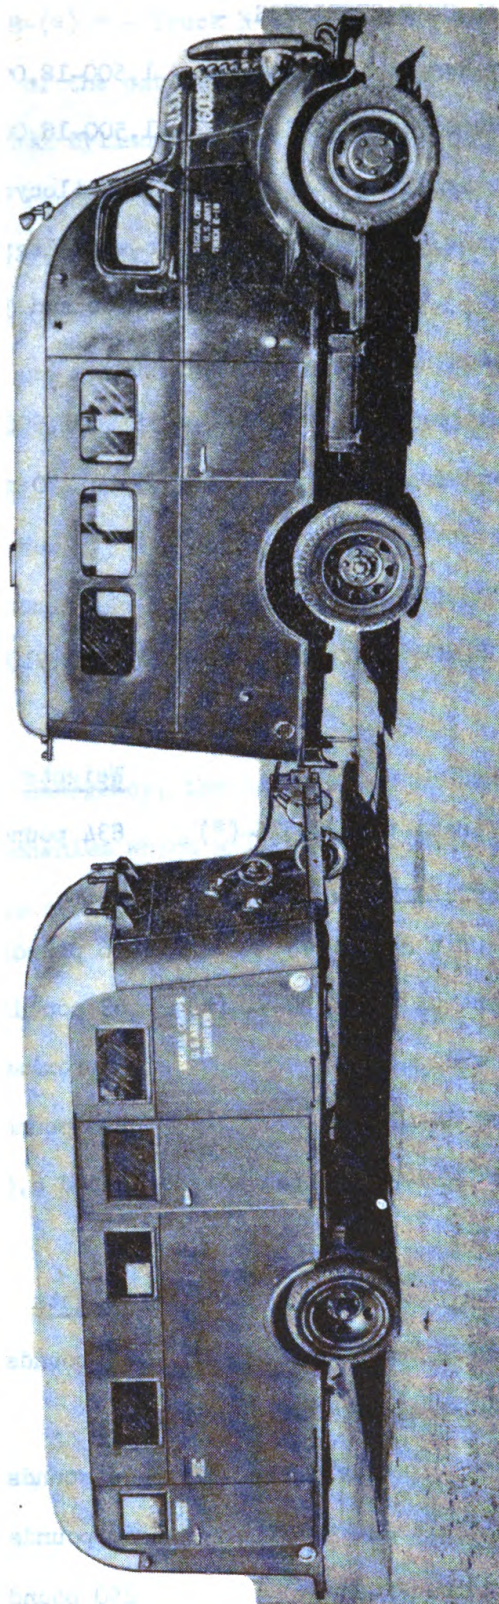

Figure 1. - Radio Set SCR-197-(\*), with the Trailer K-19-(\*) in position in rear of Truck K-18-(\*) .
10. PHYSICAL CHARACTERISTICS. - Radio Set SCR-197-(\*) is a high-power portable radio station. The transmitting equipment is installed in Truck K-18-(\*) and the receiving equipment is installed in trailer K-19-(\*). Commercial sources of power are used when available. Gasoline-engine driven power units for both the transmitting and receiving equipment are furnished and used when commercial power is not available. The transmitter may be remotely controlled using voice, tone, or c-w operation from remote positions up to a distance of 7-1/2 miles by means of commercial telephone lines or Wire W-110 lines. During field operations, Truck K-18-(\*) tows Trailer K-19-(\*) to the receiving location. The trailer is situated at this location and the Truck K-18-(\*) proceeds to the transmitting location. Figure 1 shows a complete Radio Set SCR-197-(\*).